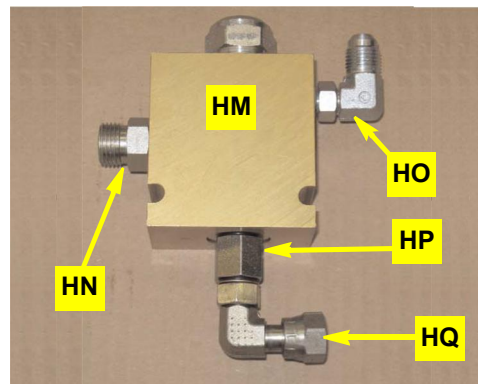

Figure 6a: Prepared load sense valve
a. Prepare dynamic load sense valve **HM** as follows (Figure 6a):